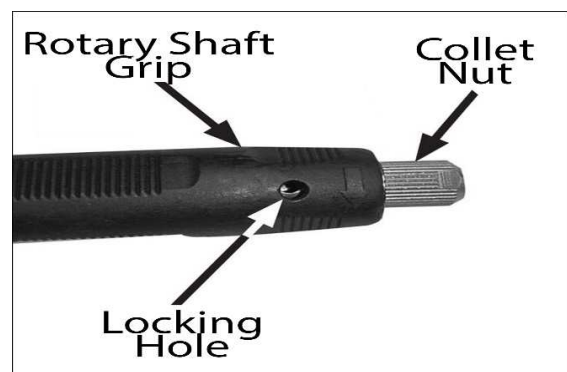

Figure 16
2. Now rotate the collet nut until the locking holes in the rotary shaft are aligned with the grip, then insert the pin wrench. (See figure 16 below)